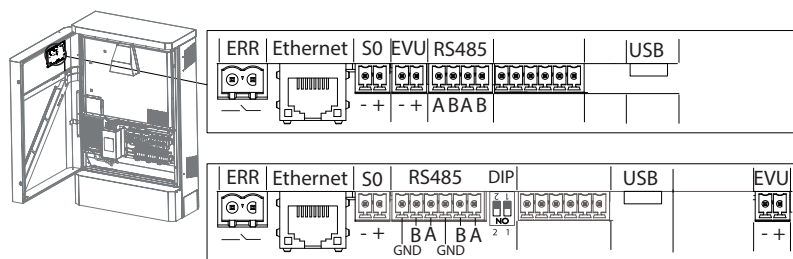

Figure 28: Connection area: connecting the interfaces. Top: variant 1. Bottom: variant 2.
3. Connect the connection cables to the corresponding connection terminals (see Figure 28 on page 25).